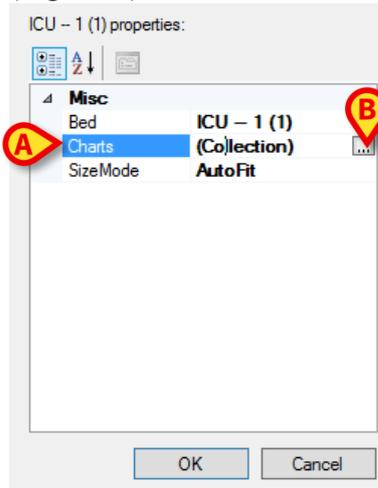
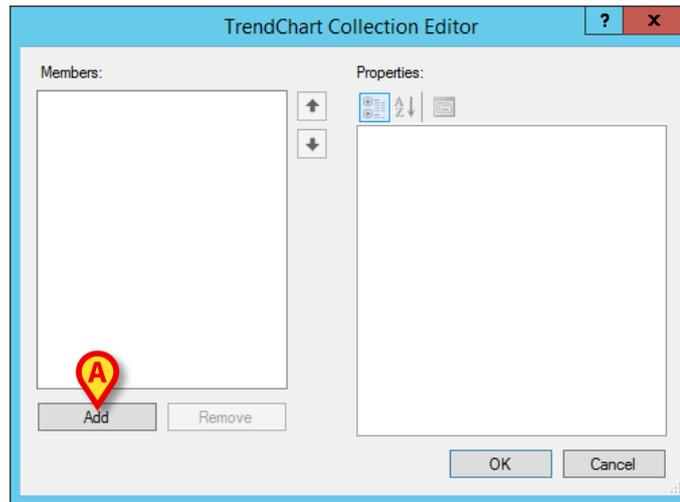
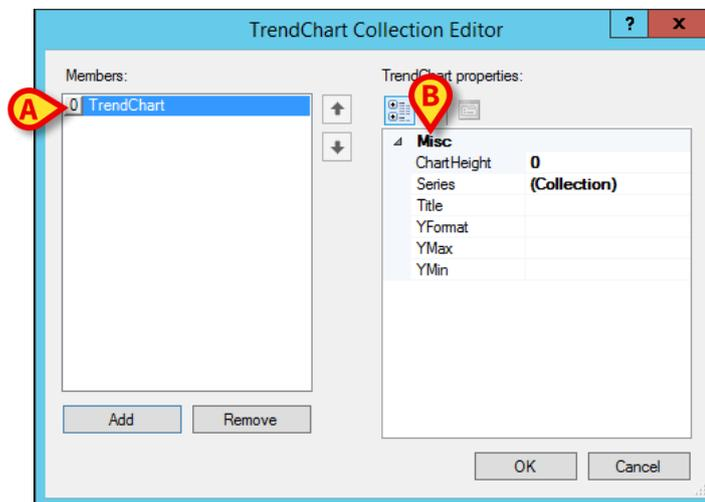

Fig 61
Fig 62
Fig 63
8. Click the “Charts” row to define the charts features (Fig 61 **A**). A button is displayed on the right (Fig 61 **B**).
9. Click the button indicated in Fig 61 **B**. The following window opens (Fig 62).
10. Click the **Add** button (Fig 62 **A**). A new Member is this way added (Fig 63 **A**).
The item properties will be displayed on the right (Fig 63 **B** - empty at the moment).